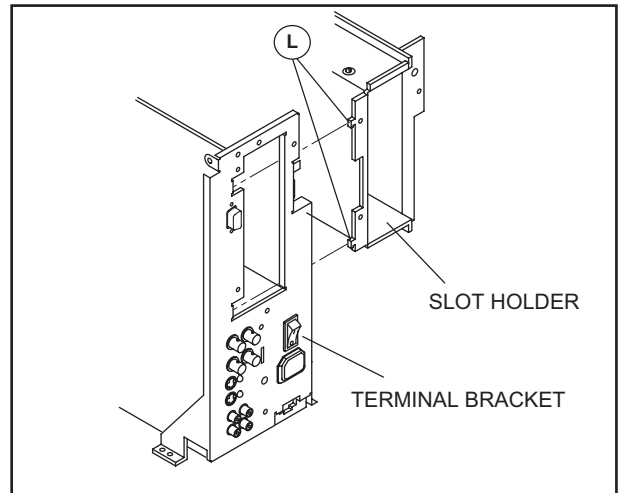
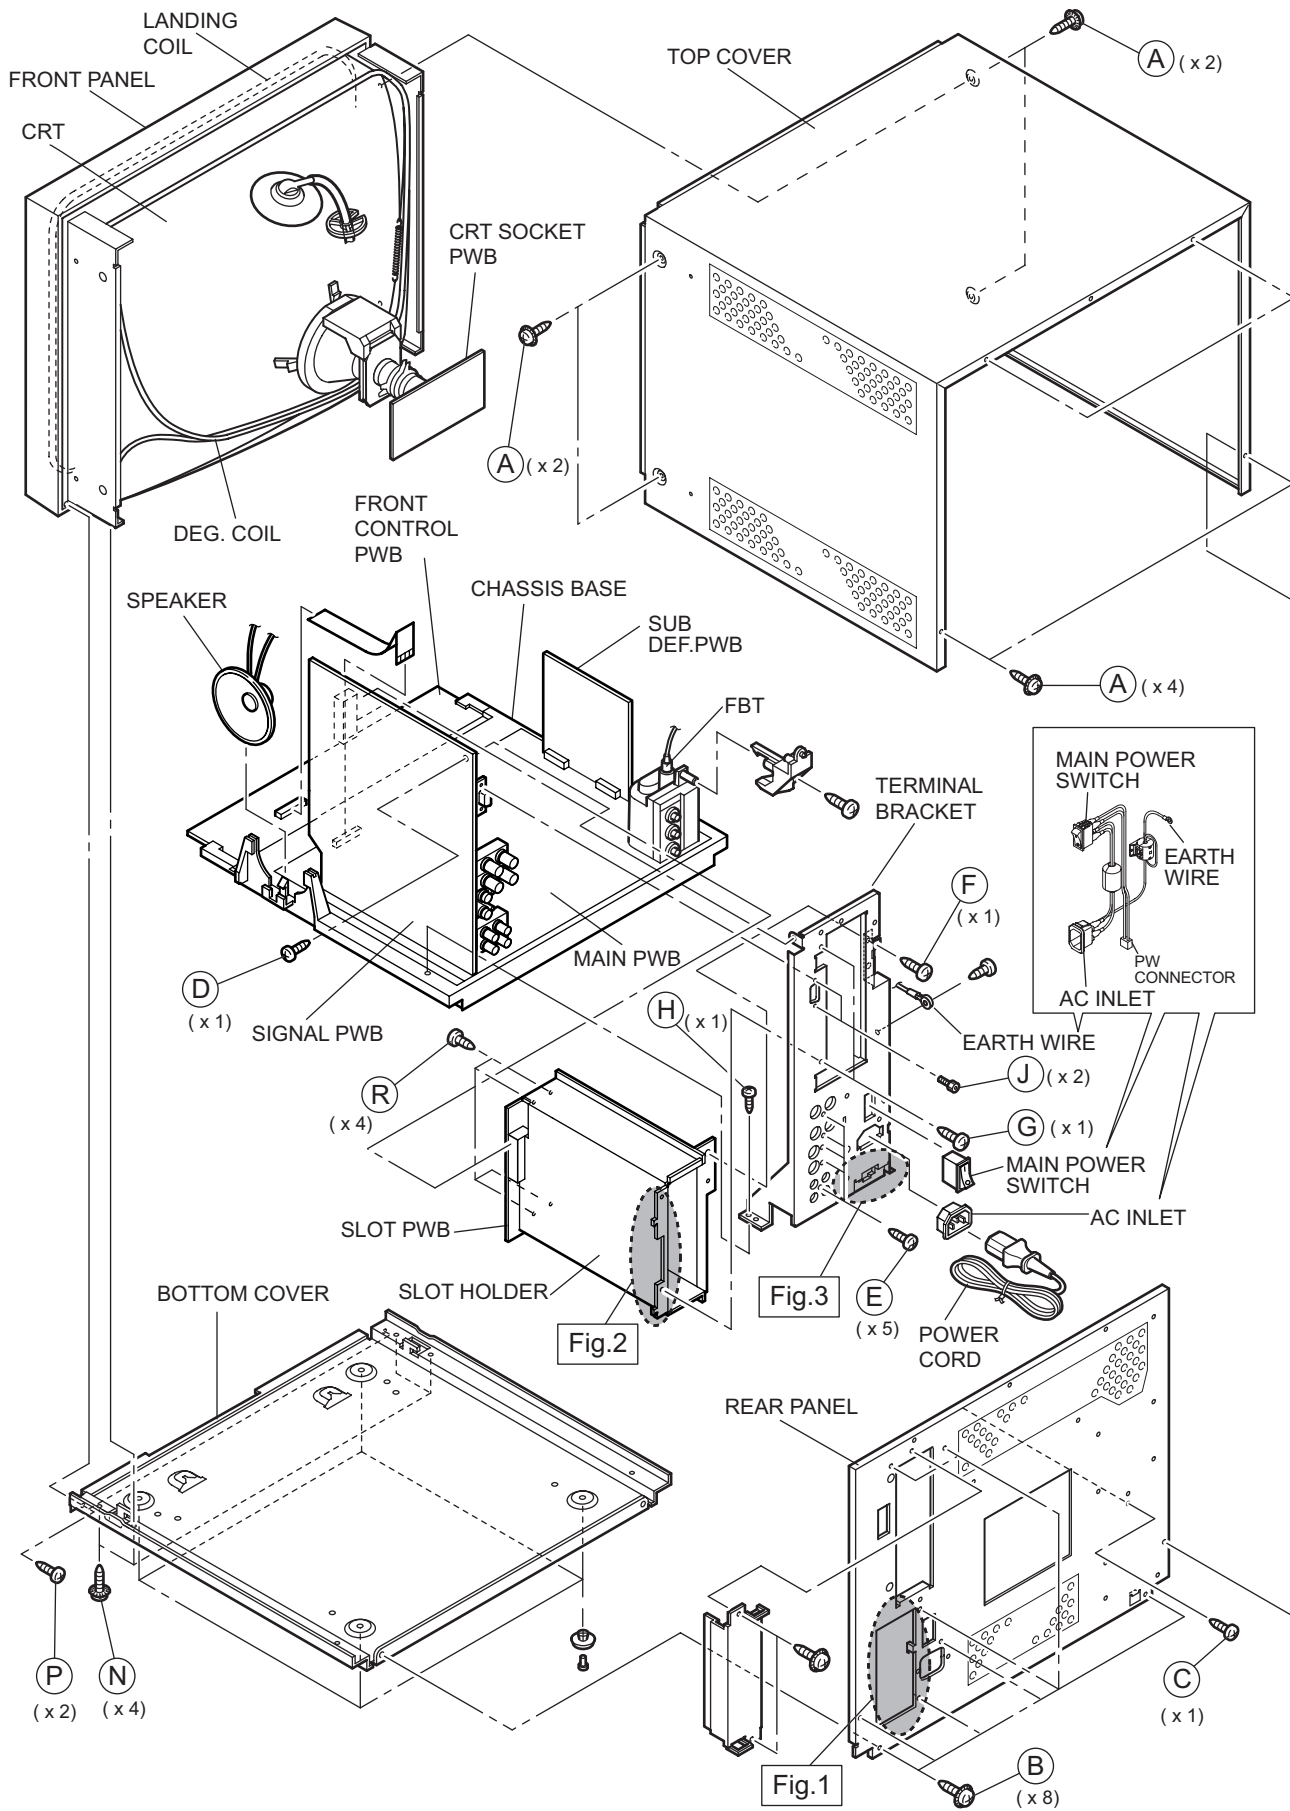

Fig.2
Fig.4
- (1) Remove the 8 screws [A] as shown in Fig.4.
- (2) Slightly spread the bottom of the TOP COVER
- (3) Shift the TOP COVER rearward and raise it upward to remove it.
- (1) Remove the 8 screws [B] as shown in Fig.4.
- (2) Remove the 1 screw [C] as shown in Fig.4.
- (1) Remove the 1 screw [D] as shown in Fig.4.
- (2) Remove the 5 screw [E] as shown in Fig.4.
- (3) Remove the 1 screws [F] and [G] as shown in Fig.4.
- (4) Remove the 1 screw [H] as shown in Fig.4.
- (5) Remove the 2 hexagonal screws [J] as shown in Fig.4.
- (6) Pull the PW connector out from the MAIN PWB, connected between the MAIN POWER SWITCH and MAIN PWB.
- (7) As shown in Fig.2, lift the SLOT HOLDER slightly, and remove the 2 claws [L] attached SLOT HOLDER with the TERMINAL BRACKET.
- (1) Detach the connector connected SLOT PWB and SIGNAL PWB, then remove the SLOT PWB with SLOT HOLDER.
- (2) Remove the 4 screws [R] as shown in Fig.4.
- (3) Then remove the SLOT PWB from SLOT HOLDER.
- (2) Remove the 4 screws [N] as shown in Fig.4.
- (3) Remove the 2 screws [P] as shown in Fig.4.
- (4) While spreading the BOTTOM COVER to the bottom side, pull it out to rearward to remove it.